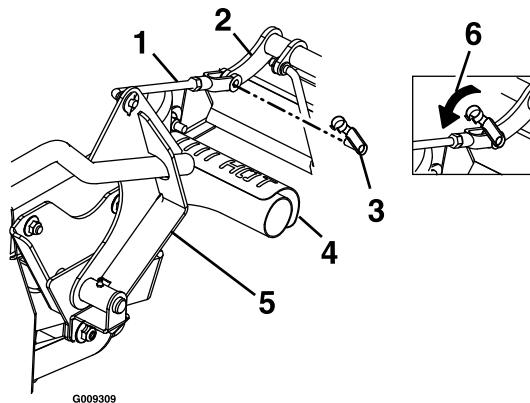

Figure 25
- B. Rotate the handle link towards the actuation arm bracket and align the holes as shown in Figure 25.